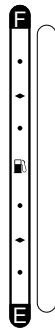

Figure 17. Fuel Gauge
1. Read the fuel gauge located on the left side of the generator (Figure 17) to determine if the fuel level is low.